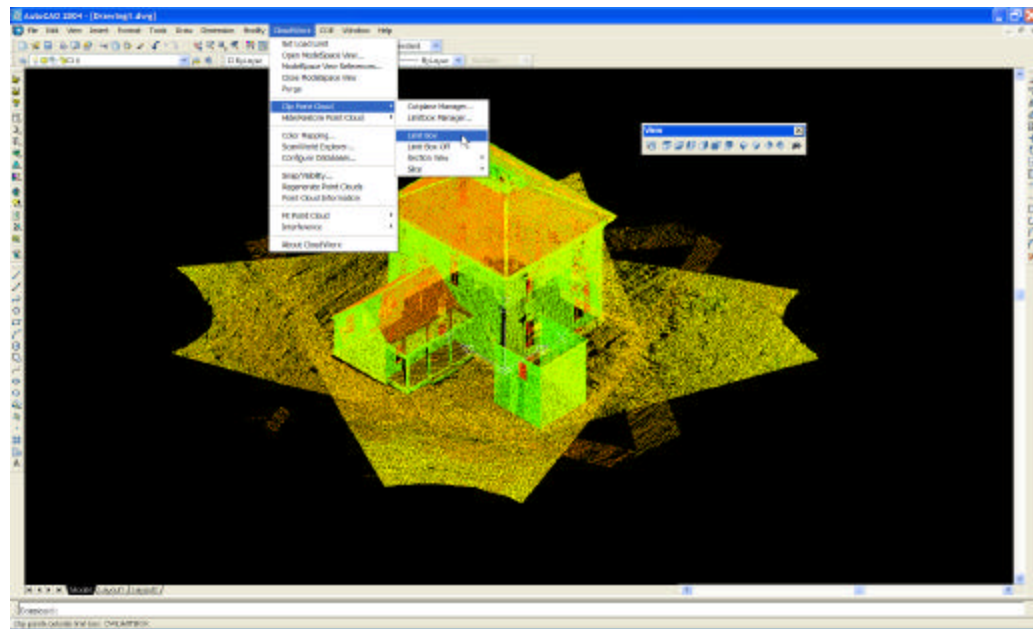

Figure 6.3.2
2. Begin by creating a limit box around part of the house. Go to the menu command **CloudWorx ?Clip Point Cloud ?Limit Box**. As shown in Figure 6.3.2.